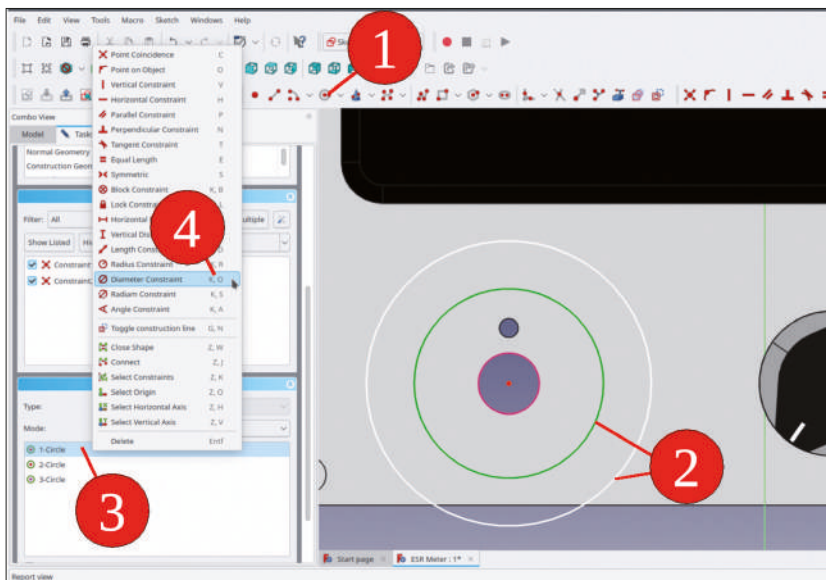

Figure 8-3
6. Draw two circles centered on the construction element. End the drawing command with a right-click. In the 'Elements' list, right-click one of the circles and select 'Diameter constraint' from the context menu (Figure 8-3). Enter a value of 38 mm.